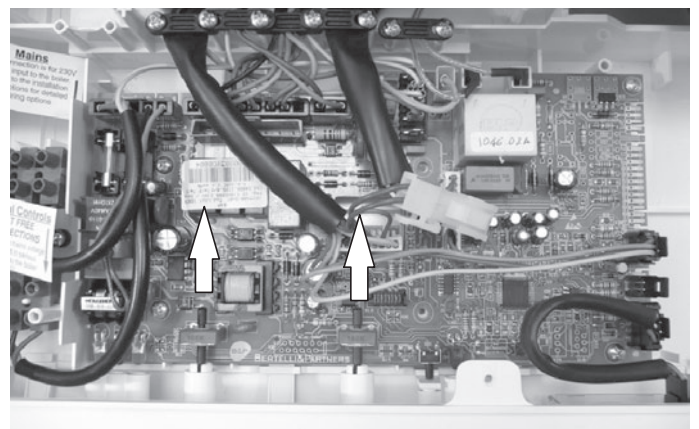

Figure 10.23
- 3 Remove the spindles of the c.h. and d.h.w. temperature adjustment knobs by delicately pulling them with pliers in the direction shown by the arrows in Figure 10.23.